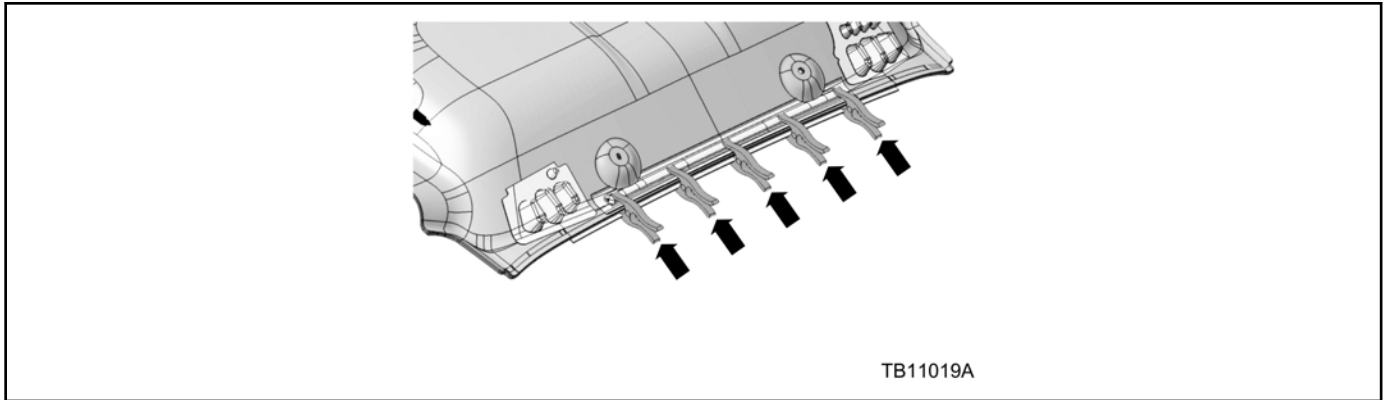

Figure 4 - Article 17-0012
- b. Working in one direction, continue to apply additional spring clamps every 15 cm (6 inches) or as needed so the headliner conforms to the profile of the metal reinforcement. Make sure no gaps appear between the headliner and metal reinforcement. (Figure 4)